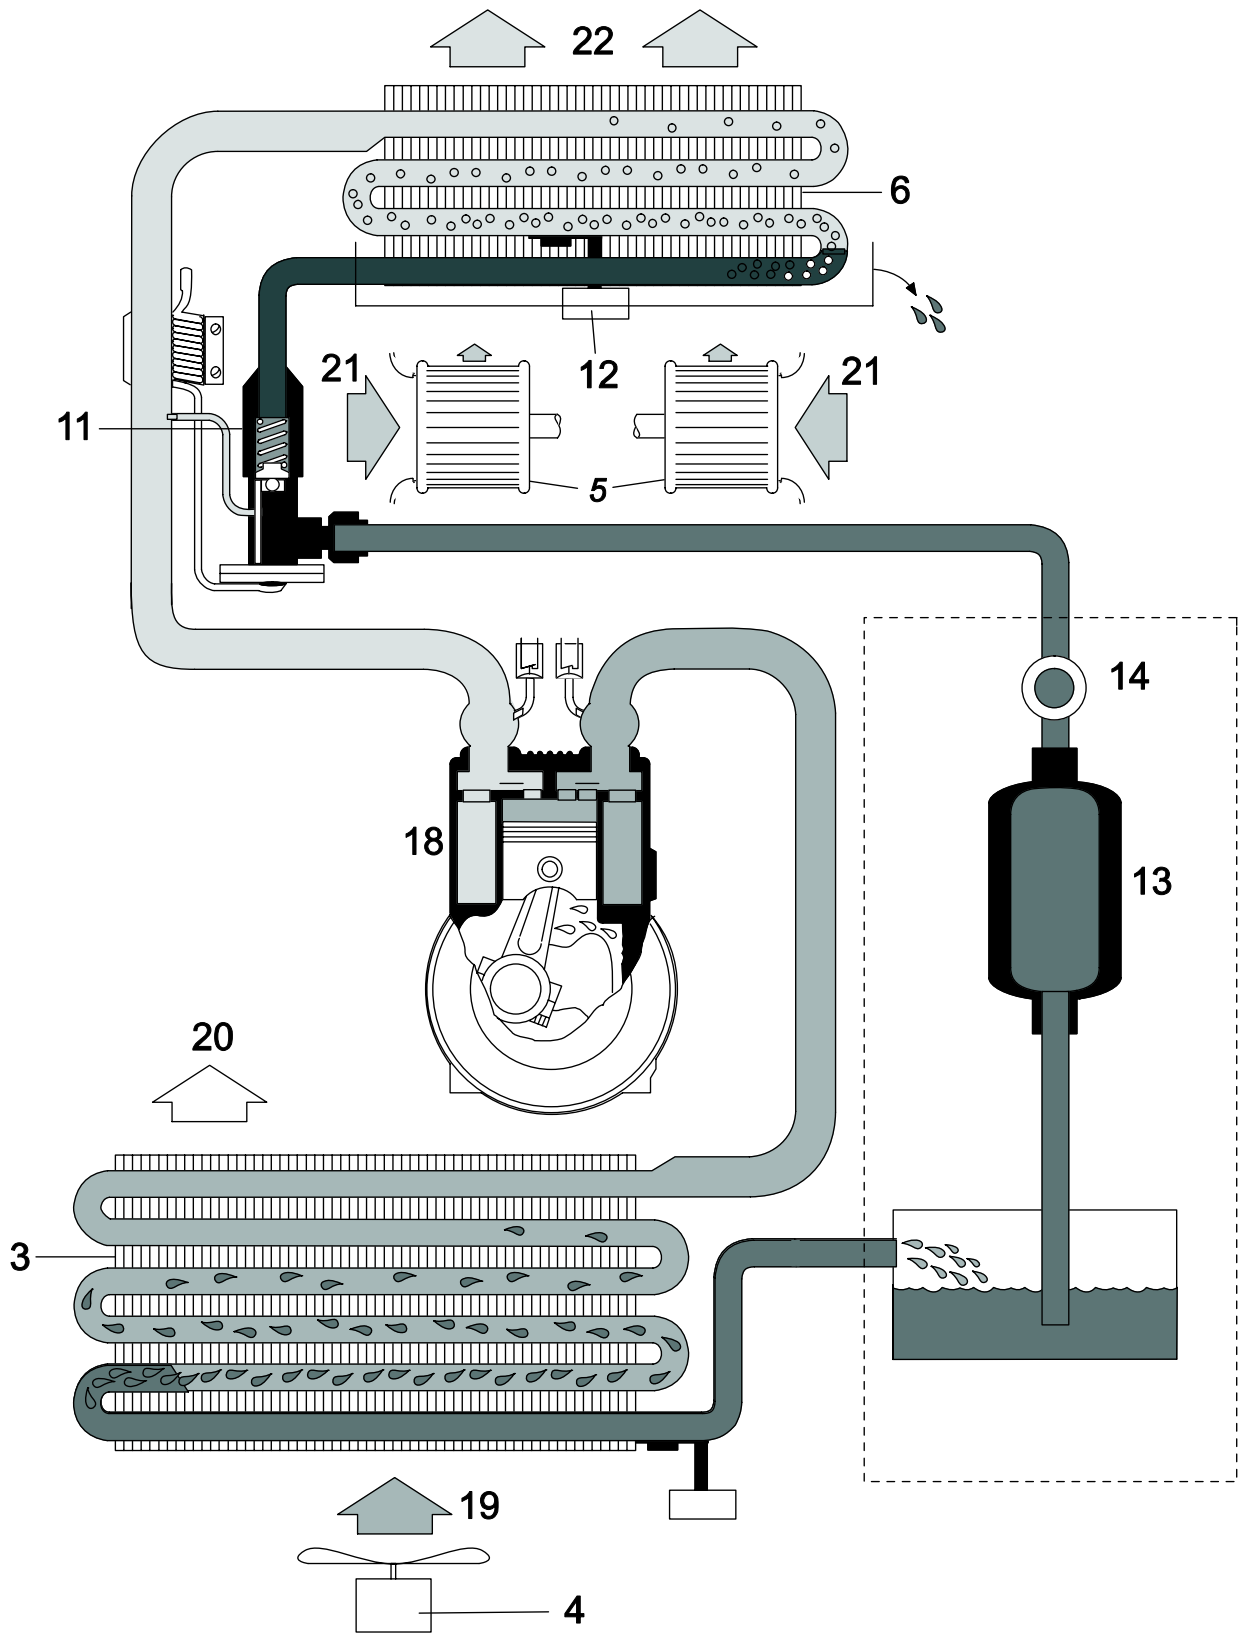

Figure 2.4.
Coolant lifecycle (figure 2.4)
2.5 Design, Task, and Function of the Components (figure 2.4)
The accumulator dryer with glass front (13) is a compensation and storage container for coolant. The lower section contains drying granulates that extract small amounts of water from the coolant and chemically bind it. This reduces the danger of icing in the expansion valve and protects the compressor from damages. During operation, the glass front (14, figure 2.4) shows if enough coolant is in the system.